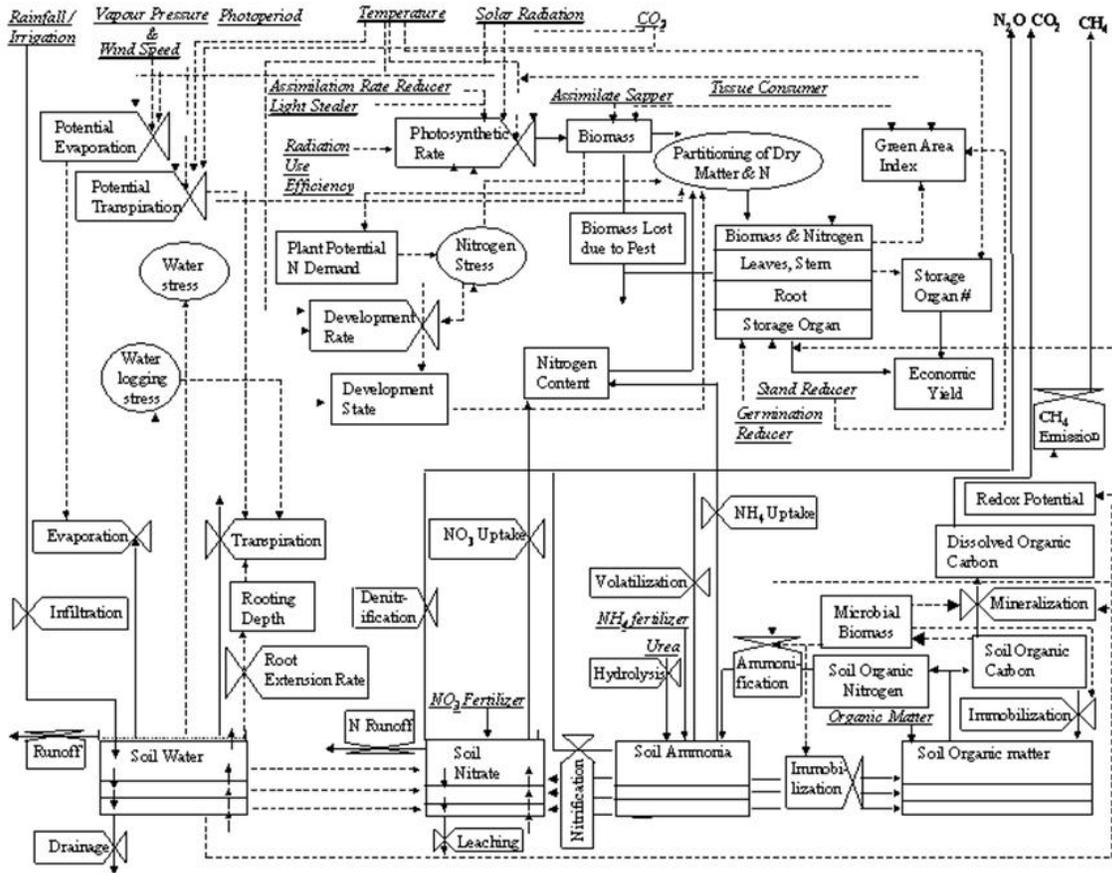

Fig. 1 Relational diagramme of InfoCrop model
- Define key variables in system: Variables include state, rate, driving and auxillary variables. State variables are those which can be measured or quantified, e.g. soil moisture content, crop yield etc. Rate variables are the rates of different processes operating in a system, e.g. photosynthesis rate, transpiration rate. Driving variables are the variables which are not part of the system but they affect the system, e.g. sunshine, rainfall. Auxillary variables are the intermediated products, e.g. dry matter partitioning, water stress etc. These variables are identified in the crop field. After identification of these variables relationship among different variables is determined and a relational diagramme is drawn (Fig. 1). This helps in better understanding of the whole process.